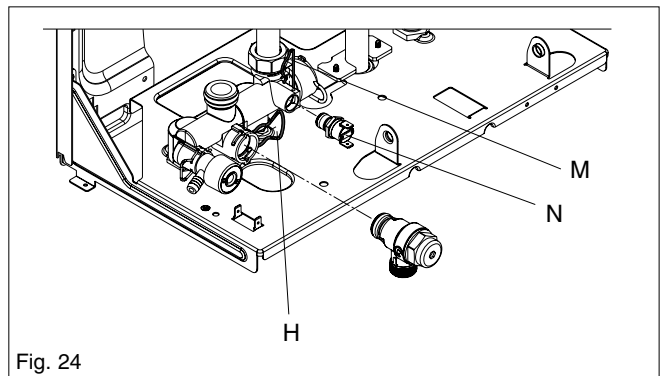

Fig. 24
6.6 SAFETY VALVE (fig. 24)
6.8 WATER PRESSURE SWITCH (fig. 24)